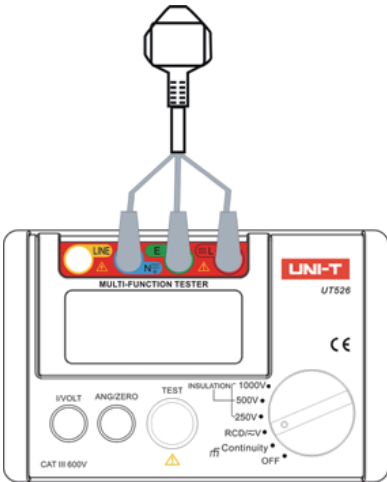

Figure 3
**IX. Measuring RCD(See Figure 3)**